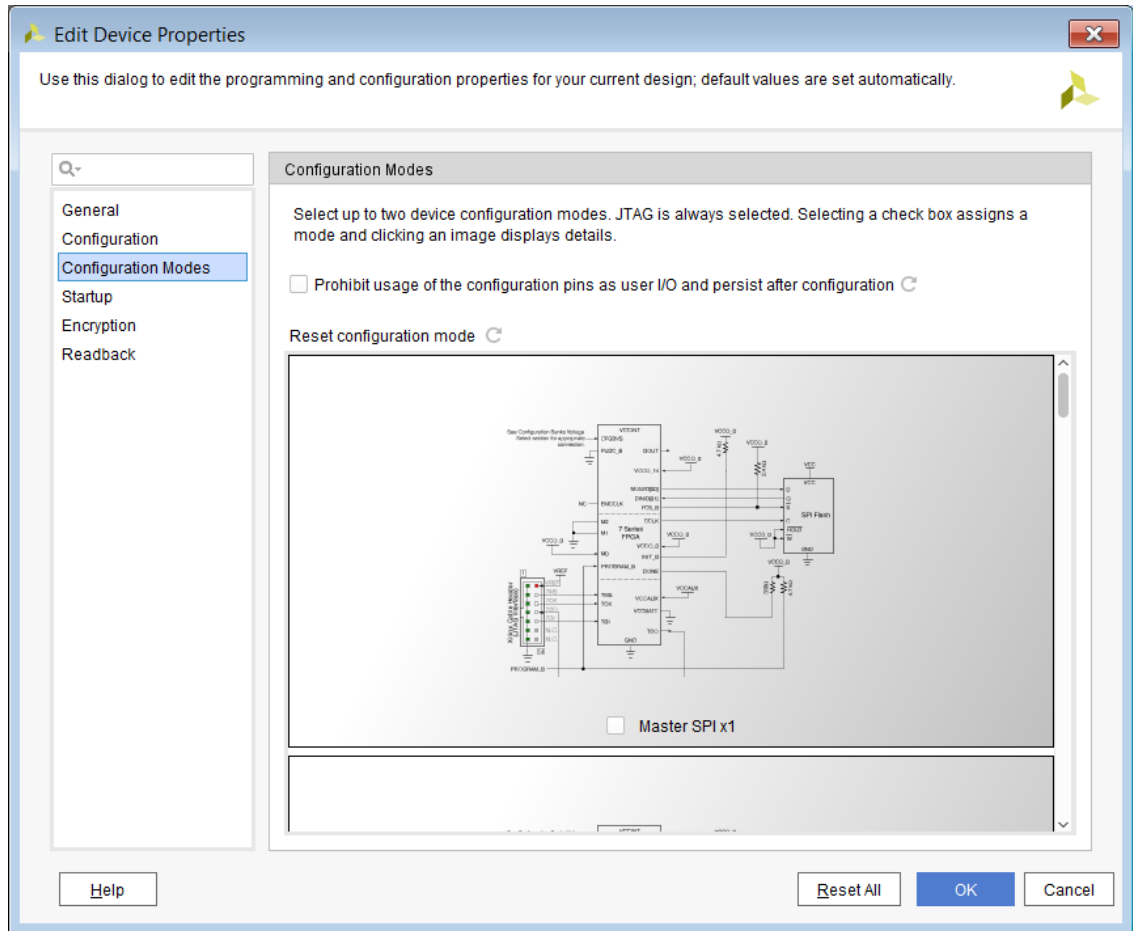

Figure 2-2: Edit Device Properties Dialog Box
2. In the Edit Device Properties dialog box (Figure 2-2), select the **Configuration Modes** category, do the following, and click **OK** to close the dialog box: